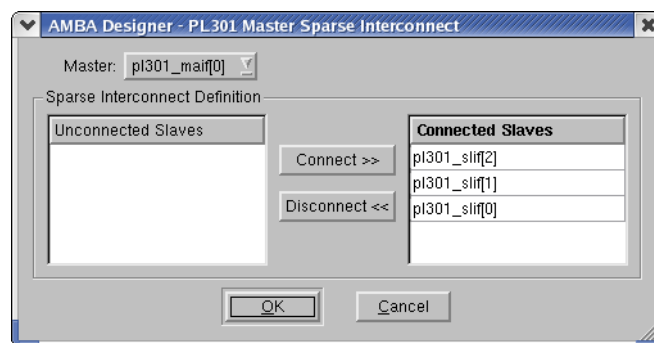

Figure 4-38 PL301 Master sparse interconnect dialog
2. From the context menu, select **AMBA Designer** → **PL301 Master Sparse Interconnect**. This opens the PL301 Master Sparse Interconnect dialog box as Figure 4-38 shows.
Figure 4-38 on page 4-41 shows that this dialog box contains a Master drop-down list and a Sparse Interconnect Definition pane. These are described in: